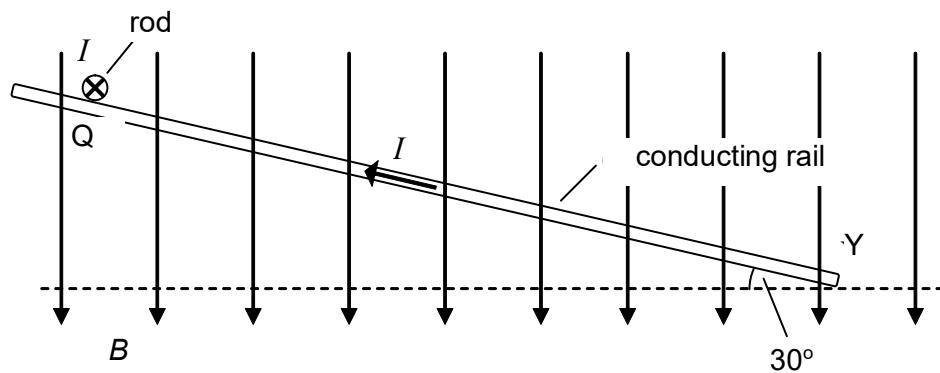

Fig. 7.2
Fig. 7.2 shows the side view of the setup. The conducting rails are inclined at an angle of 30° above the horizontal. The switch is closed and current is flowing in the conducting rail as shown in Fig. 7.2.
- (a)** On Fig. 7.2, draw the forces acting on the rod. Label the forces clearly. [1]